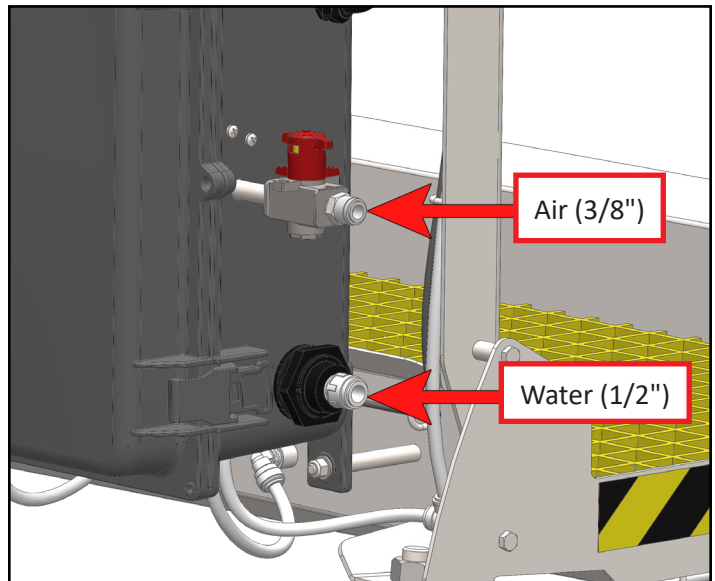

Fig. 6.2: Water and air inlets
1. Using 1/2" LDPE tubing or similar, connect water to the unit's push to connect fitting [Figure 6.2]
2. Using 3/8" LDPE tubing or similar, connect air to the unit [Figure 6.2].